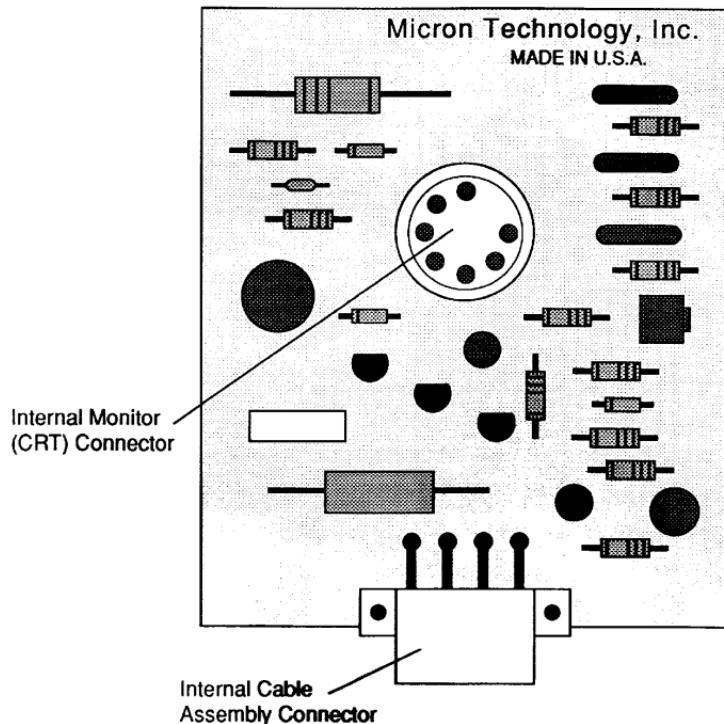

Figure 1-1
4. Insert cable-assembly plug J4 into connector J1 located on the Xceed Color 30 video card. Refer to Figure 1-1 on page 1-3 of your Color 30 installation guide for the location of the Gray-Scale 30 connector. Make sure the locking tab on the plug "snaps" into place over the tab on the connector.